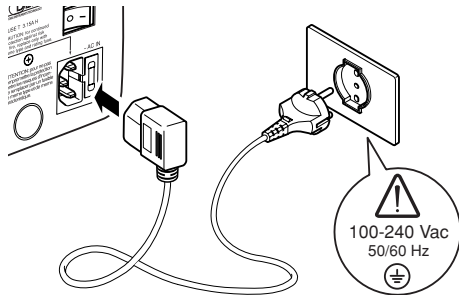

Fig. 1
- Connect the projector to a power supply with a nominal voltage within the following values: 100-240 Vac, 50/60 Hz, earthed (*Fig. 1*).